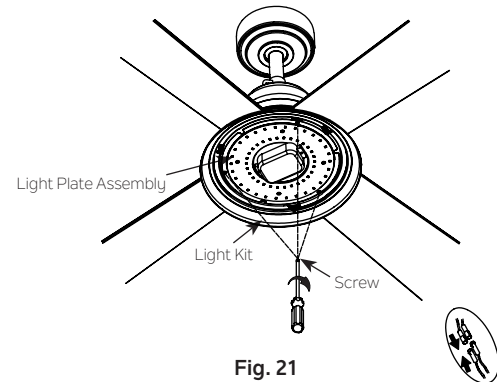

Fig. 21
Step 2. Hold the light kit close to the light plate assembly and connect the WHITE wires from the light kit and fan by pushing the connectors together. Follow the same procedure with the BLACK wires. (Fig. 21)
Step 3. Tuck the connections neatly into the light kit. Attach the light kit to the light plate assembly and securely tighten with three screws removed on Step 1. (Fig. 21)